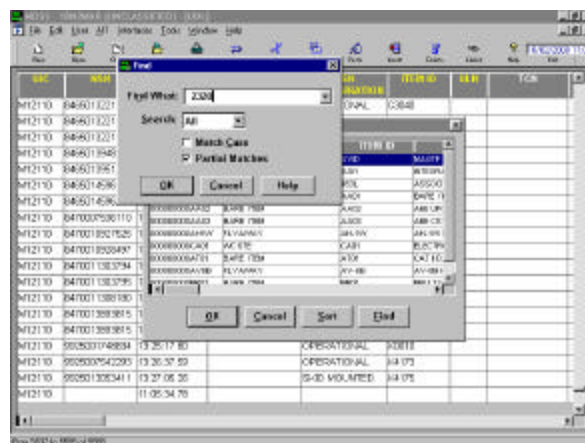

Figure 9
STEP 3. Place the cursor in the NSN field of the TechData table and select "Find". Type 2320 and then click OK. The system will then search the database and locate the very first item listed with those digits we inserted into the find box (see figure 9)